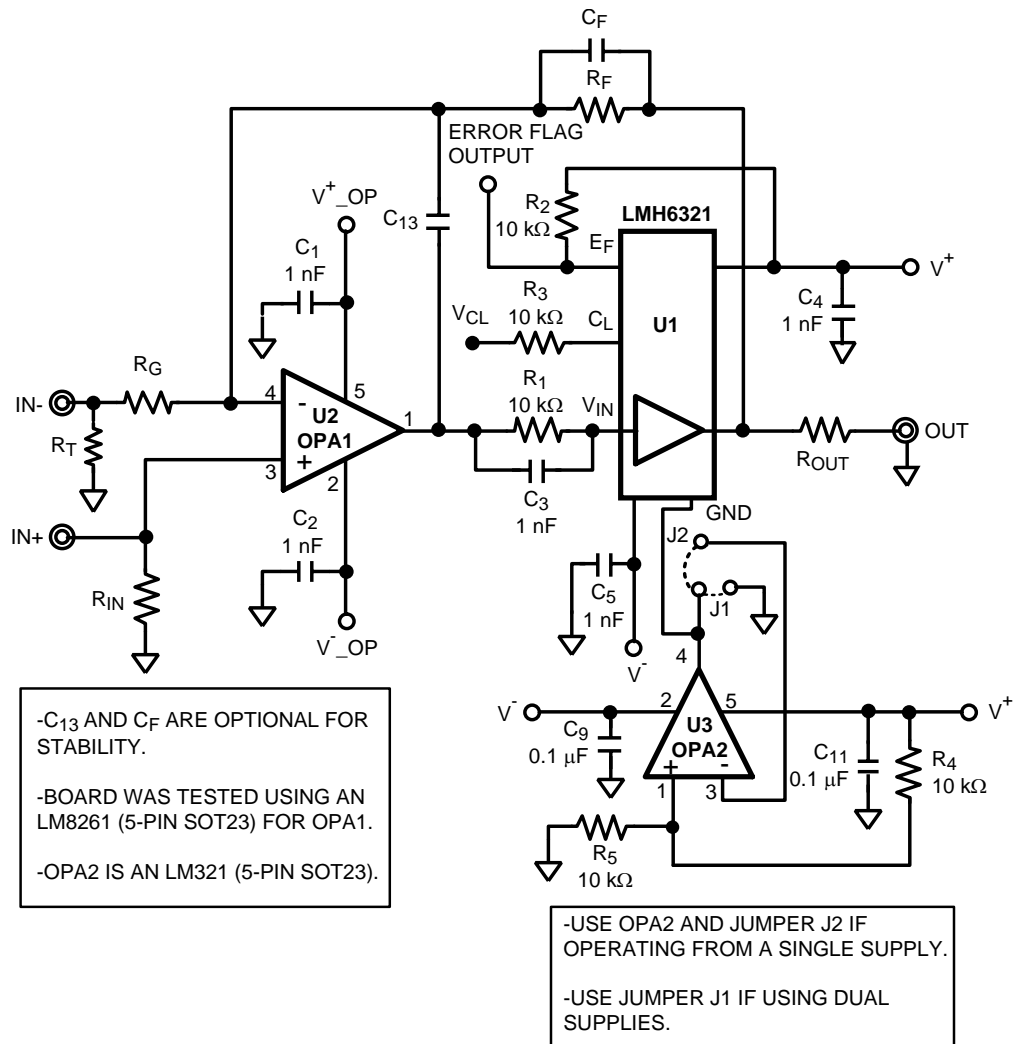

Figure 1. Eval Board Schematic
The evaluation board schematic is shown in Figure 1. The schematic shows some of the components with the recommended values. Use all surface-mount components.
These boards are a very straight forward design that allows for the evaluation of the LMH6321 in a closed-loop configuration with an op amp. Figure 1 shows the schematic for both boards. The input signals are brought into the boards via two SMA connectors to either the inverting or non-inverting inputs. No jumpers or modification of the boards is necessary to use one or the other configurations. The resistors  $R_{IN}$  and  $R_T$  are used to set the input termination resistance to the op amp for non-inverting and inverting operation, respectively. The non-inverting gain is set by Equation 1:
As indicated in Figure 1, a 10 kΩ resistor ( $R_3$ ) is recommended (though a wide range of resistance values are possible). In this case, the output current can be adjusted directly with  $V_{CL}$  over a range of  $+0.25\text{ V} \leq V_{CL} \leq +7.5\text{ V}$ , corresponding to 10 mA and 300 mA, respectively.
- As mentioned, if dual supplies are used, then the GND pin can be connected to a hard ground via a jumper wire (this is the way assembled boards are shipped). Although the LMH6321 will most often be used with dual supplies, it can be used with a single supply. In this case the GND pin must be set to a voltage of one  $V_{BE}$  ( $\sim 0.7\text{ V}$ ) or greater, or more commonly, mid rail, by a stiff, low impedance source. This precludes the use of a resistive voltage divider. The reason for this is because, when the error flag turns on, a ground current flows out of the GND pin and if a resistive voltage divider were used, this current would produce a voltage drop that would lift the GND pin, thus causing error in the output current. This is because the GND pin is one of the inputs to the error amplifier in the Current Limit circuit, and  $C_L$  is the other input. This amplifier has a large open loop gain, which forces  $C_L$  and GND to be at the same potential. Therefore, any error in the GND pin voltage will force the same voltage at the  $C_L$  pin, which will cause an error in the calculated current limit value. An op amp, configured as a buffered voltage source, can be used to drive the GND pin to  $1/2$  of  $V^+$  when  $R_1 = R_2$ . The high open loop gain of the op amp forces a very low impedance at the GND pin, which ensures that this pin will be held stiffly at the voltage chosen. The boards come equipped with a circuit that does this. The pin out is standard for an 8 pin single op amp. An LM321 is used on pre-assembled boards, as shown in Figure 1
4. Adding a buffer inside any op amp feedback loop will add another pole (phase lag) to the response. If the unity gain crossing of op amp is near the gain-bandwidth of the buffer the over-all phase lag of the circuit will consume most, if not all of the available phase margin, and oscillation will occur. For this reason it is important that the buffer has a GBW significantly larger than that of the op amp, so that loop performance will be determined solely by the op amp. With most general purpose, precision, and low power op amps, the bandwidth of the LMH6321 is so great that the op amp totally controls the loop stability. If however, a wideband op amp is used, the phase margin and open loop frequency response can be altered by the additional pole(s) contributed by the buffer and this should be taken into consideration. The buffer phase shift is algebraically summed with the op amp phase shift, and may cause a stable op amp loop to become marginally stable (large overshoot, ringing), depending on the relative positions of the op amp and buffer poles. In the application shown in Figure 1, the LM8261 op amp (OPA1) has a GBW of 15 MHz, while the  $-3d$  B bandwidth of the LMH6321 is greater than 100 MHz, giving sufficient loop phase margin. Optional pads have been added to the EVAL boards to allow for the addition of compensating capacitors  $C_C$  and  $C_F$ , should they prove necessary.
2. Include large (10  $\mu$ F tantalum) bypass capacitors ( $C_6$  and  $C_8$  in Figure 1) from both supplies to ground.
The LMH6321 provides an open collector output at the EF pin that produces a low voltage (Flag transistor ON) when the thermal shutdown protection is engaged, due to a fault condition. Under normal operation, the Error Flag pin is pulled to  $V^+$  by an external resistor. When a fault occurs that causes the die temperature to rise to about 165°C, the EF pin goes low, but then returns to  $V^+$  when the fault disappears. This voltage change can be used as a diagnostic signal to alert a microprocessor of a system fault condition. If this function is used, a 10 k $\Omega$  pull-up resistor ( $R_2$  in Figure 1) is recommended, but larger resistors can be used. The larger the resistor the lower will be the voltage at this pin under thermal shutdown. Table 1 shows some typical values of  $V_{EF}$  for 10 k $\Omega$  and 100 k $\Omega$ . If the error flag function is not used, the EF pin should be tied to ground.
**Table 1.  $V_F$  vs.  $R_2$  Figure 1**